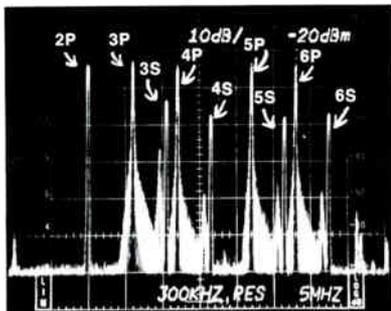

Figure 2
7) Set up the spectrum analyzer at a field test point. Select 5 MHz/DIV .3 MHz resolution and center the low band channels as indicated in Figure 2. Put Channel 2 on the second graticule from the left.